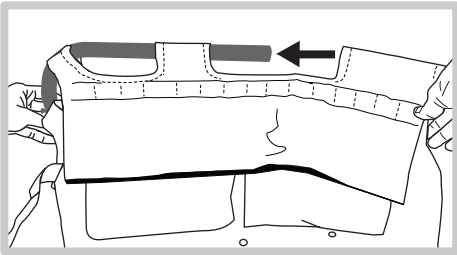

Figure 2
2. Slide bags over Big Dummy rails so the sleeves cover the top rail and straight leg, with the two adjustable Velcro straps positioned on the bent leg with the bolts (Figures 2, 3).